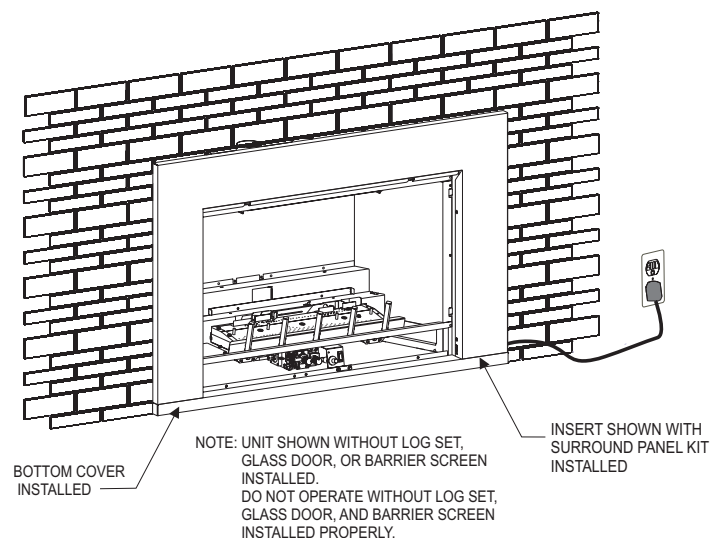

Figure 2
5. The blower cord should be routed to the right side of the insert. A knockout is provided in the right side of the surround panel to allow the power cord to exit the insert. See **Figure 2**.
8. **Figure 2** shows the Bottom Surround Cover in the installed position.